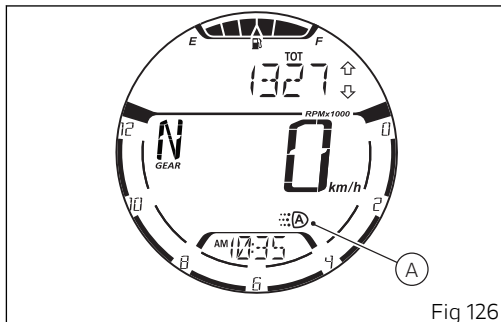

Fig 126
It is possible to switch off the DRL lights by setting them to “MANUAL” with button (5) on the left-hand switch. Press button (5) again, the DRL lights will turn on again and set to “AUTO”. When the DRL lights are set to “AUTO”, the display shows the symbol (A, Fig 126)
If the DRL is in this mode, when starting the engine it automatically switches off and the low beam is activated if the instrument panel detects poor light conditions (NIGHT). If the instrument panel detects good light conditions (DAY), the DRL remains on and the low beam off: in this mode, the instrument panel automatically switches from the DRL light to the low beam and vice versa, according to the detected ambient light conditions. The symbol (A, Fig 126) will be displayed.